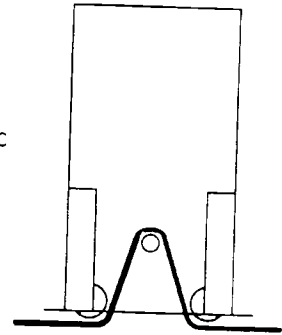

FIGURE 1.8.1A
1. Before mounting the operator to the pad, position the chain idlers as shown in figure 1.8.1A.
3. Position the operator on the mounting plate. If the mounting plate assembly has been installed correctly, there should be a minimum clearance of one (1) inch between the back of the operator and the gate, and the back of the operator should be parallel with the gate. **If these conditions do not exist, make corrections now!**